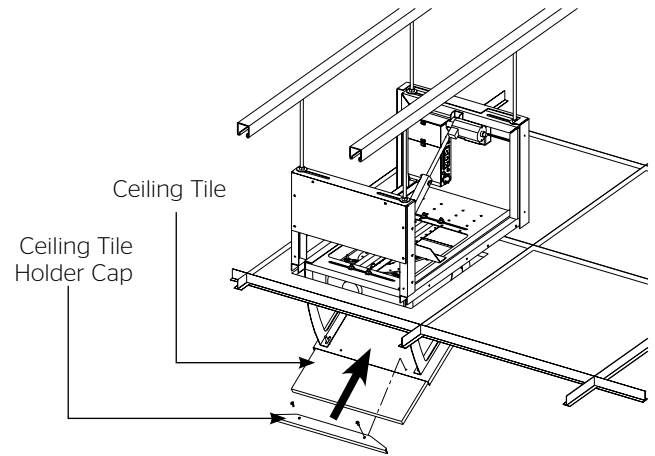

Figure 12
11. Remove Ceiling Tile Holder Cap from Da-Lift. Install Ceiling Tile cutout from step 6 into Ceiling Tile Holder and assemble Ceiling Tile Holder Cap. See Figure 12.